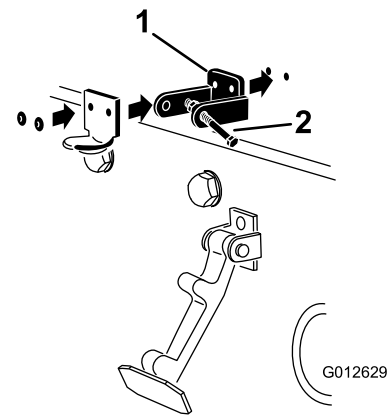

Figure 6
5. Rivet the brackets and the washers to the hood (Figure 6).